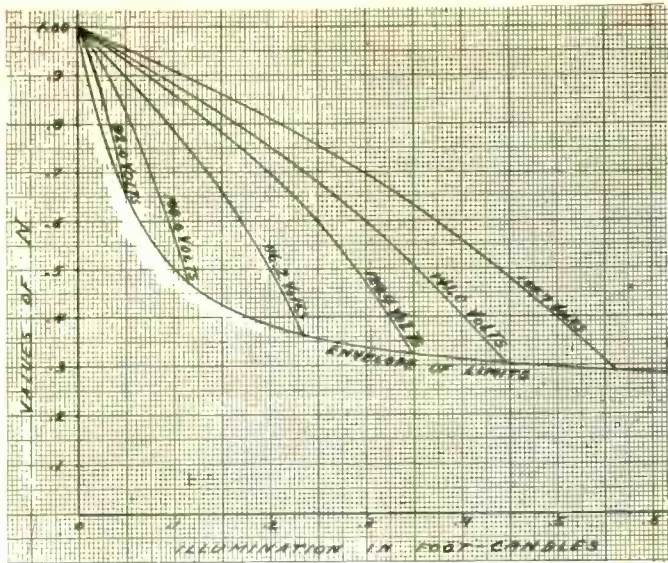

FIG. 4
Fig. 4 illustrates the characteristics indicated in point (6) with respect to the applied potential. It is clearly seen that as the potential increases, the corresponding values of the frequency ratio (N), decrease, indicating a greater frequency change. The frequency ratio (N) is the ratio of a given frequency to the frequency under zero illumination. A very interesting curve is obtained by joining the values of the frequency ratios (N) at the limiting values of radiation at different voltages. This curve, indicated in Fig. 4 as the envelope of limits, is very nearly an equilateral hyperbola.
Fig. 4 also shows that the sensitivity decreases as the potential is increased, as stated in point (5).
The characteristic indicated in point (4) is brought out in a striking manner by the following determinations: with an applied potential of 139.2 volts, in order to decrease the frequency to 75 percent of its value under zero illumination, and with 27.0 megohms value for the resistance 5, it is required an illumination of 0.198 foot-candles, as obtained from Fig. 4. With the same voltage of 139.2, but with a resistance value of 11.9 megohms, the required illumination for the same decrease in frequency (to 75 percent of the dark value) is 0.439 foot-candles. Under the same conditions, if the resistance is further lowered to 9.2 megohms, the required